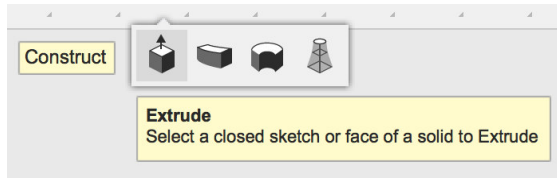

Figure 4-18 Select the Extrude option
2. Then select Extrude (Figure 4-18).